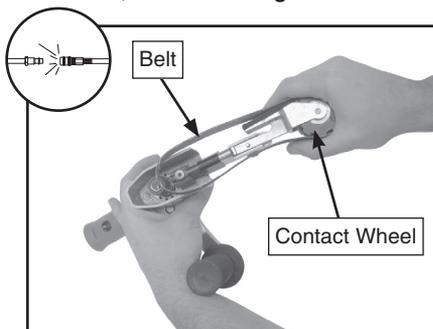

Figure 5. Preparing the sanding belt.
2. Place the sanding belt over the contact wheel, as shown in **Figure 5**.